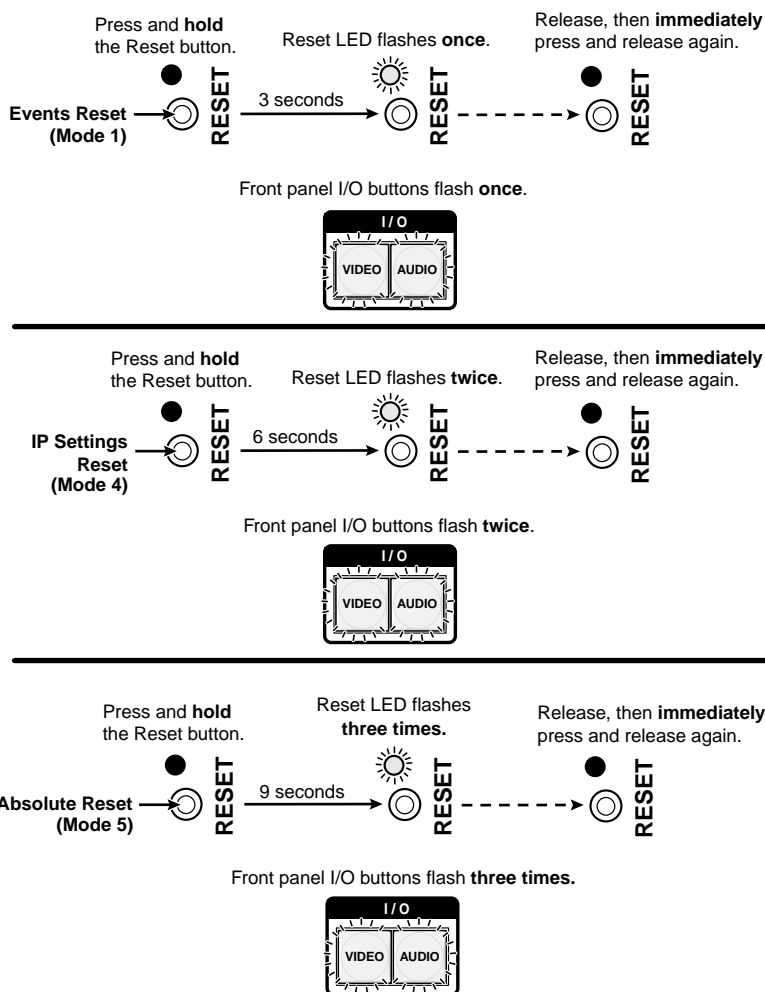

Figure 3-76 — Soft system resets
1. Use an Extron Tweezer or other small screwdriver to press and **hold** the rear panel Reset button until the front panel Video and Audio buttons blink the number of times for the desired reset: once (events reset), twice (system reset), or three times (absolute reset) (figure 3-76).